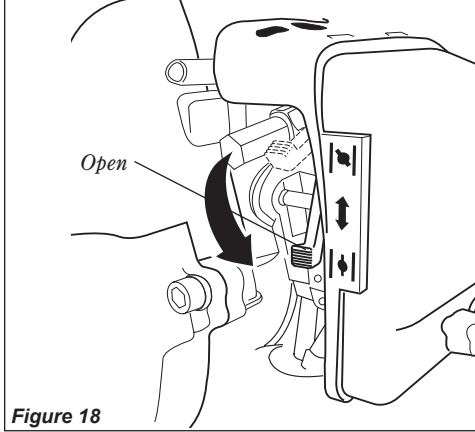

Figure 18
5. When the engine starts, slowly move the choke lever to the "OPEN" position. See Figure 18. (If the engine stops after the initial start, close the choke and restart.)